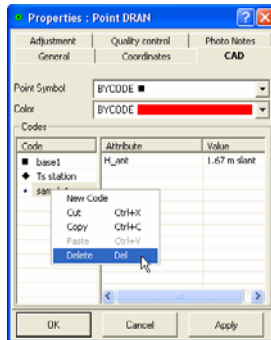

Figure 5-64. Delete Code from Point
6. To delete a code from being used in the point, right-click in the left panel and click **Delete** (Figure 5-64). Any attributes associated with the code are also deleted from the point.